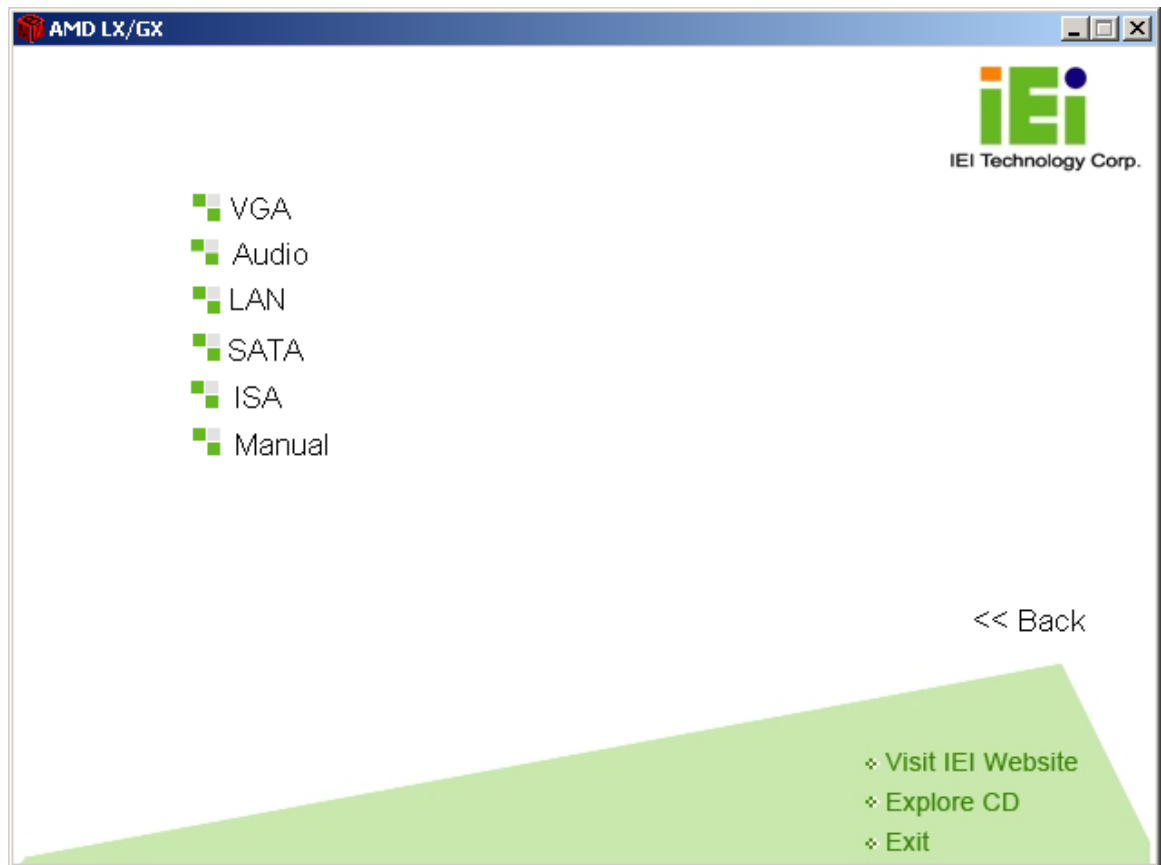

Figure 6-2: AMD LX/GX CD Driver Menu
Step 2: A window appears listing the drivers available for installation (**Figure 6-2**).